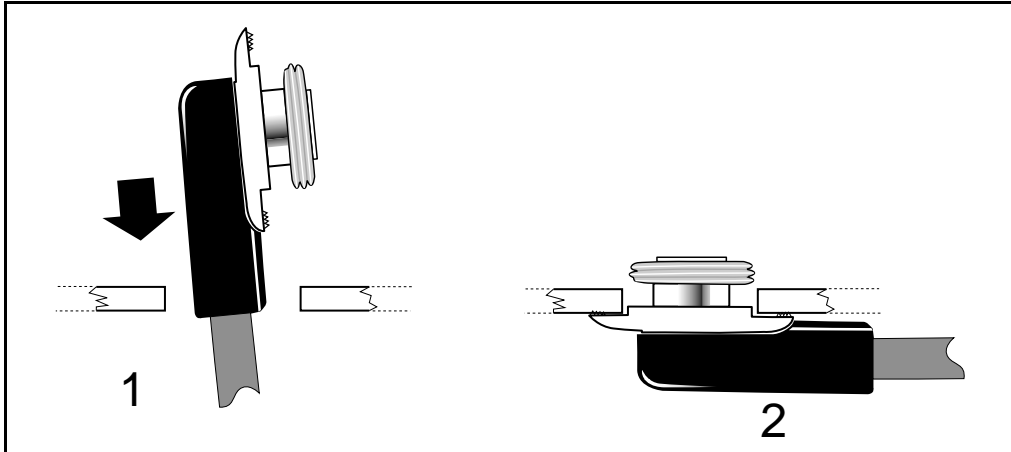

Figure 2.16 Mounting the Antenna Cable Assembly
4. Feed the coax and serrated part of the mount (mounting assembly) through the hole (Step 1, Figure 2.16).
5. Pull up on the locking nut and slip the mount step into proper alignment in the hole (Step 2, Figure 2.16).